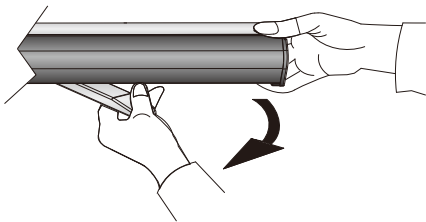

Figure 1
- Put the screen on the ground, in a proper position facing the projector. Turn the feet out until they are perpendicular to the screen casing (Figure 1 - 2).